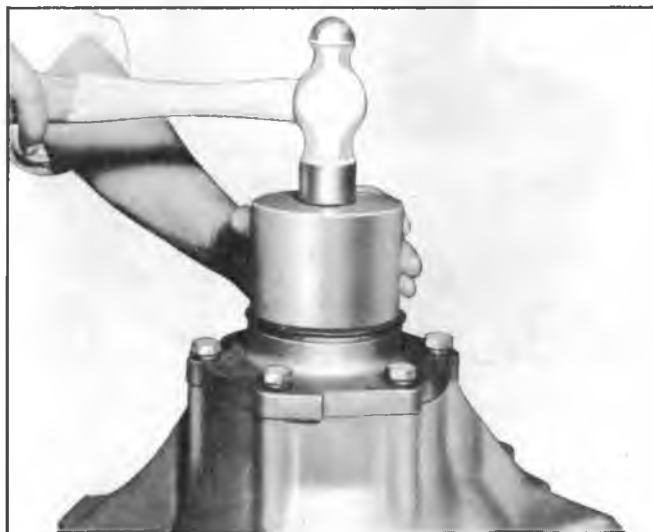

Fig. 17J--Installing Pinion Oil Seal
6. Pack the cavity between the seal lips with a lithium-base extreme pressure lubricant and install the pinion oil seal in the retainer bore, using Tool J-22283 (fig. 17J). Press the seal into the bore until it bottoms against internal shoulder.